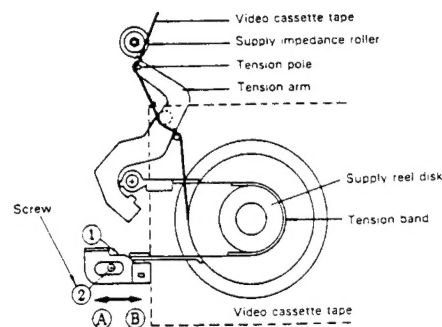

Figure 1-12.
• Position adjustment (Fig. 1-12)
1. If the tension pole is more than 1.0 mm to the right of the supply impedance roller's center, shift the tension band control bracket ① in the direction of arrow → ③, and tighten the screw ②.
2. If the tension pole is less than 0.6 mm to the right of the supply impedance roller's center, shift the tension band control bracket ① in the direction of arrow → ④, and tighten the screw ②.